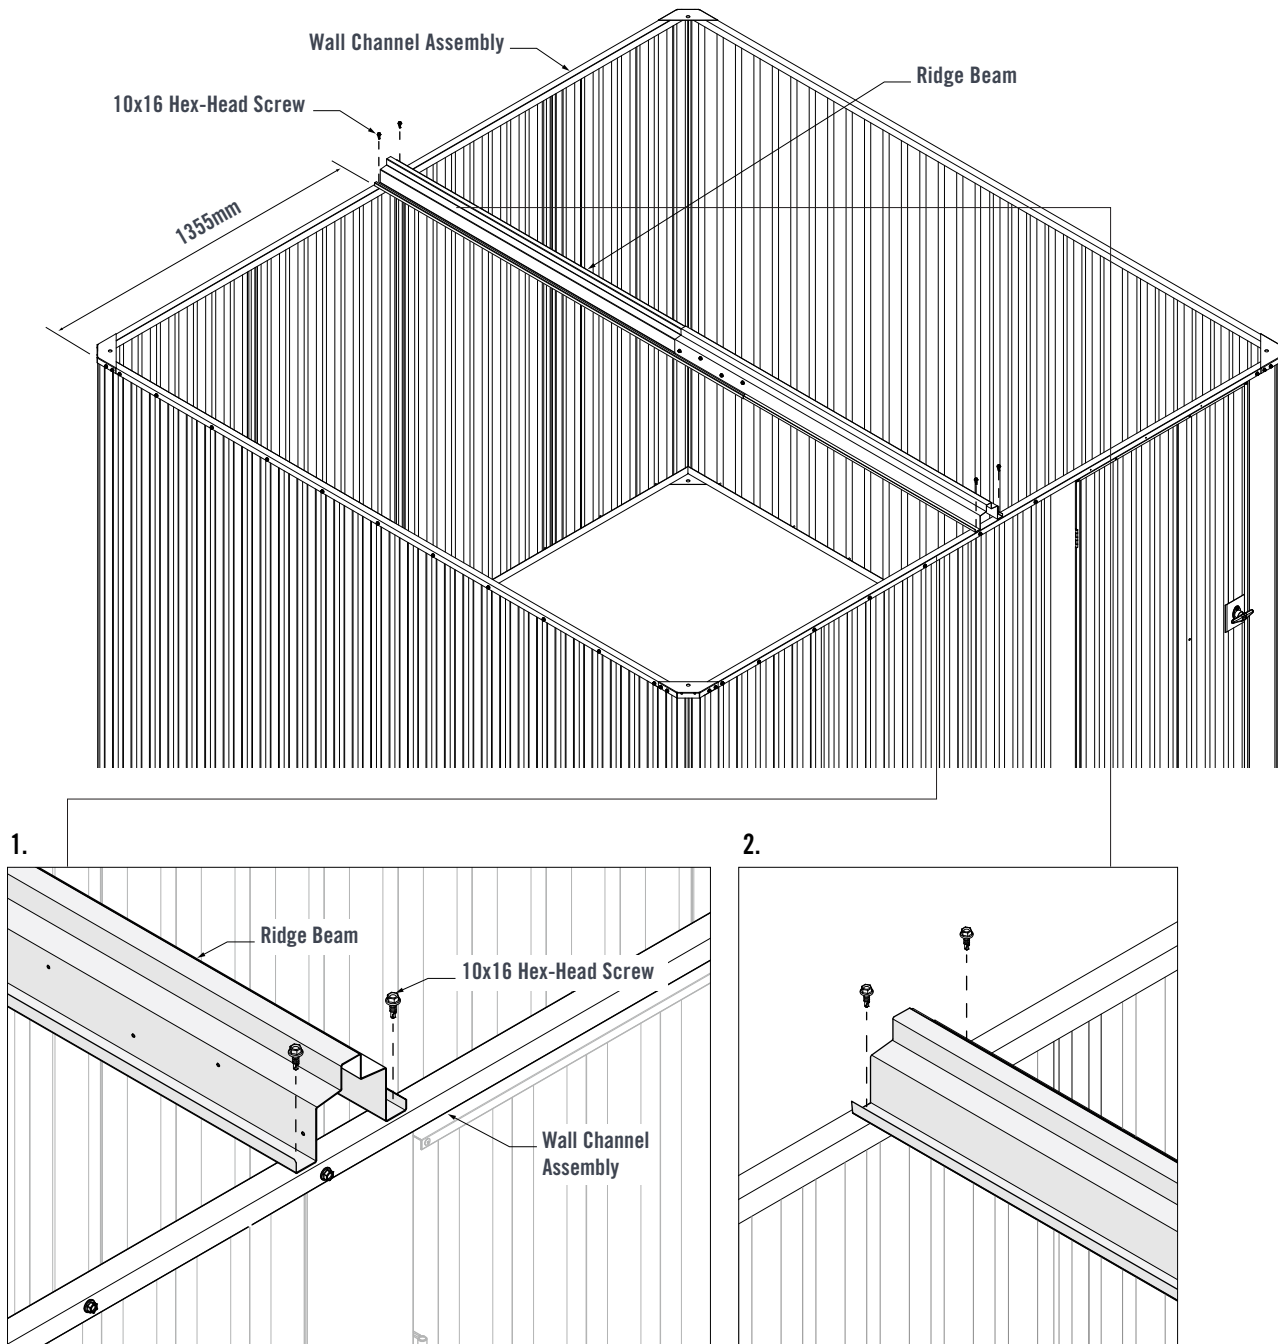

FIGURE 6.3
Fit the Ridge Beam onto the top Wall Channel Assemblies. Ensure 1355mm spacing between the edge of the shed and edge of the Ridge Beam (Figure 6.3).
1. Align the end of the Ridge Beam with the outer edge of the Wall Channel Assembly. Fasten two 10x16 Hex-Head Screws through the pilot holes in the Ridge Beam and into the Wall Channel Assembly (Figure 6.3).
2. Fasten two 10x16 Hex-Head Screws through the pilot holes in the Ridge Beam and into the rear Wall Channel Assembly (Figure 6.3).